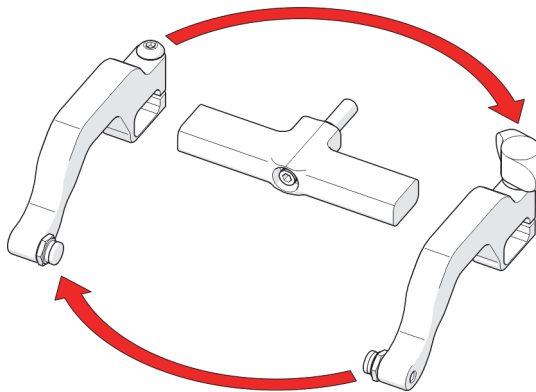

Figure 2-86 Reverse position around yoke
4. Reverse the position of the removed arms so they are at opposite sides of the yoke (see Figure 2-86 on page 112).